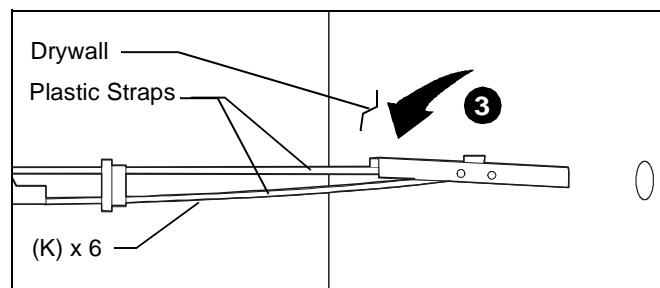

Figure 18
2. Drill six 1/2" holes at locations marked in Step 1. (See Figure 18)
3. Hold metal channel on anchor (K) flat alongside plastic straps and slide channel through hole. (See Figure 18)